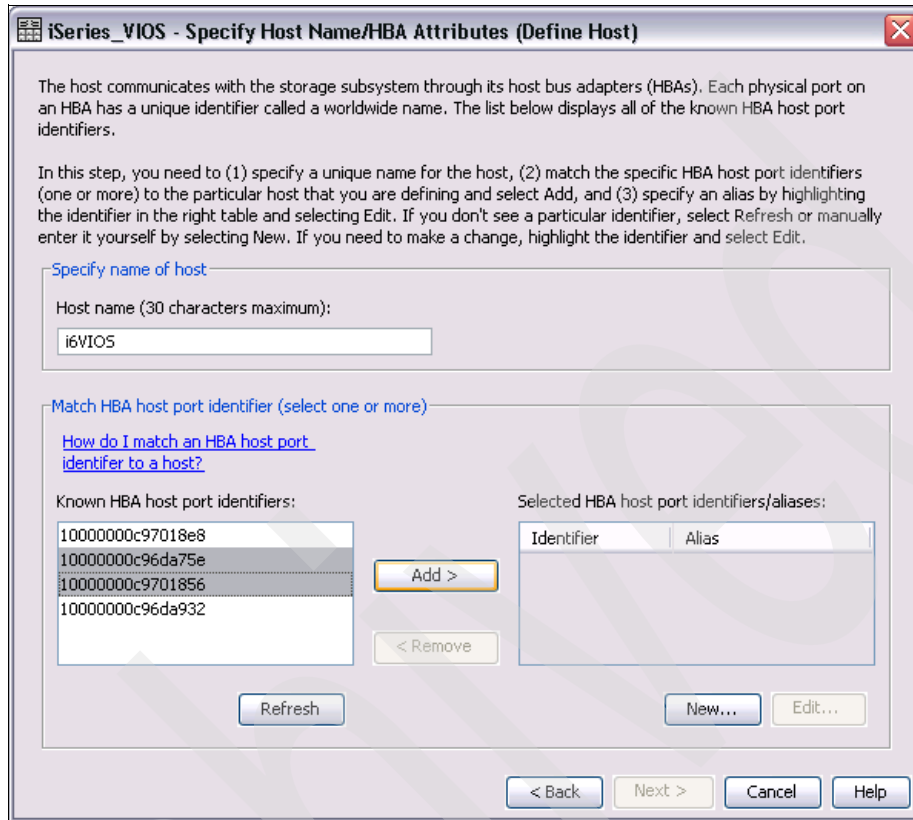

Figure 7-65 DS Storage Manager Specify Host Name/HBA Attributes dialog
6. We enter the host name i6VIOS for our VIOS partition, select the two Fibre Channel adapter WWPNs from our VIOS partition in the Known HBA host port identifiers list box, and click **Add** to proceed, as shown in Figure 7-65.